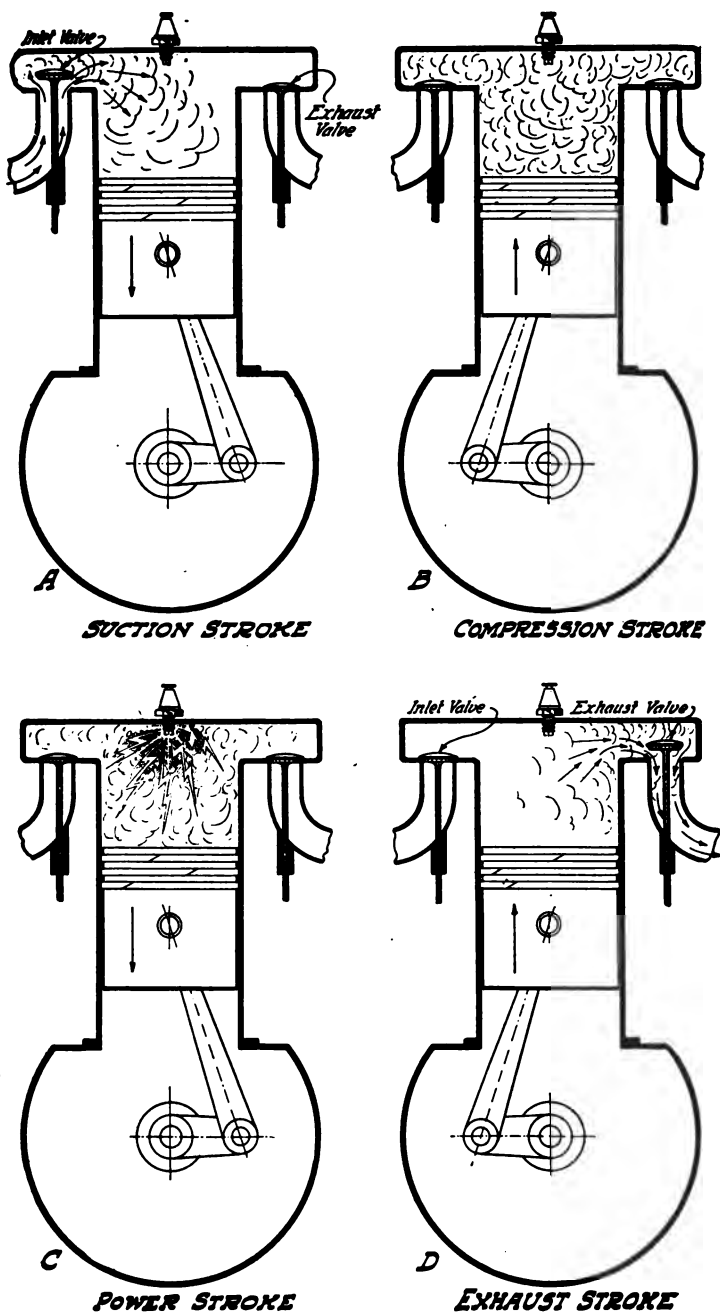

Fig. 17. Diagrams of Various Operations of Four-Cycle Engine
**Four-Stroke-Cycle, or Four-Cycle.** Taking up the four-cycle operation first, as it is the more important so far as the number of machines is concerned, we will assume that the piston has passed the upper dead center, as at *A*, Fig. 17, and that at this point the inlet valve is well open. As the piston travels downward, the explosive mixture is drawn into the cylinder, and at the lower dead center the inlet valve closes. As the piston travels back, both valves are closed *B*, and the mixture is compressed to from sixty to ninety pounds per square inch. At the time the piston reaches the top of the stroke again *C*, the spark occurs at the plug, igniting the charge. The rapid expansion, or explosion, of the gases, drives the piston down, this being known as the power stroke. The other two strokes are called the intake, or suction, and the compression strokes. At the end of the power stroke the exhaust valve opens *D*, and as the piston